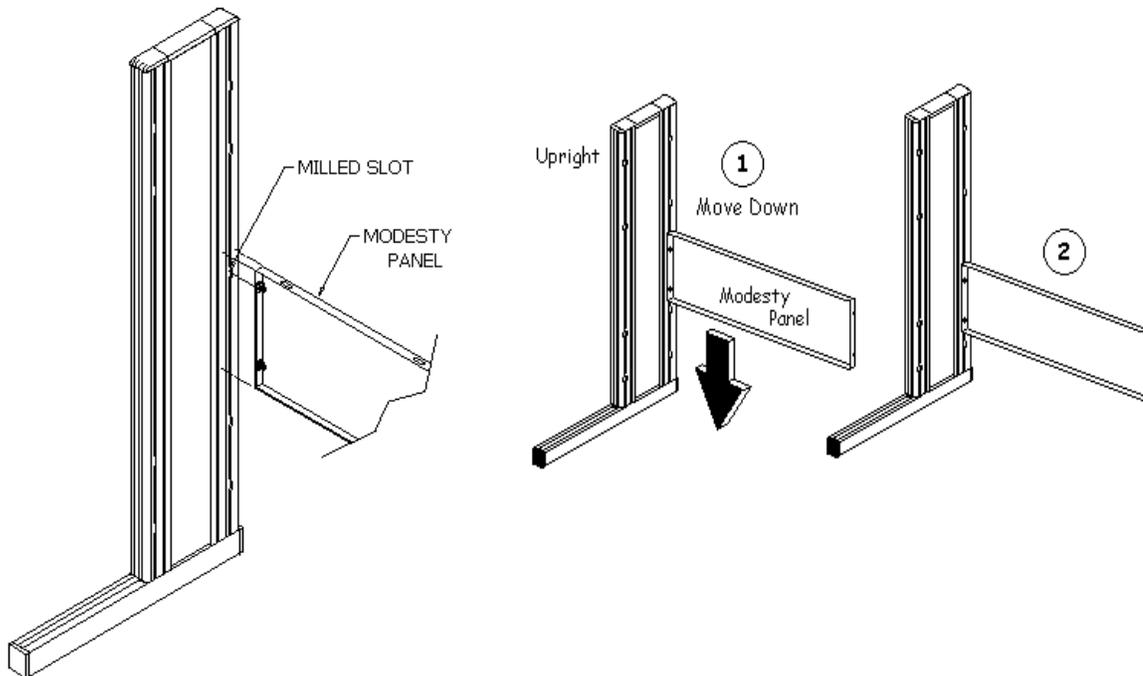

Figure 2
STEP 2: Assemble the 2 uprights of the bench to the rear modesty panel as shown in Figure 2 below using 5/16-18 x .75 square head bolts, 5/16 flat washers and 5/16 hex keps nuts. The top of the modesty panel must be placed 2.5" below the planed starting height of the top of the worksurface. The floor glides in the bases of the uprights must be set so the uprights are parallel to each other in both front to back and side to side. This alignment will make the rest of the assembly go much smoother.